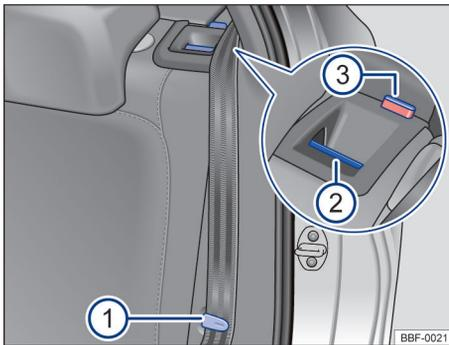

Fig. 63 On the rear seat backrest: unlocking button.
- Route the seatbelt through the clip on the side seat cover → Fig. 63 ❶
- Pull the release button → Fig. 63 ❷ forward and simultaneously fold the rear seat backrest forward.
- The respective section of the rear seat backrest will be released when the red marker → Fig. 63 ❸ pops up.
- The red marker → Fig. 63 ❸ must no longer be visible.